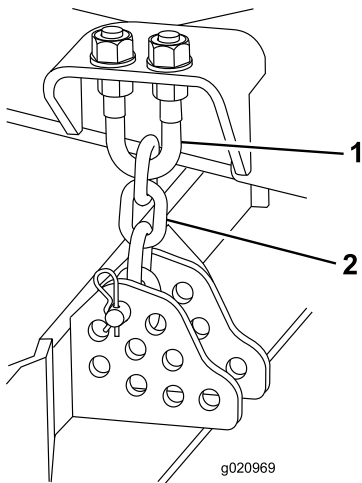

Figure 109
1. Loosen the jam nuts on the top or bottom of the height-of-cut-chain U-bolt (Figure 109).